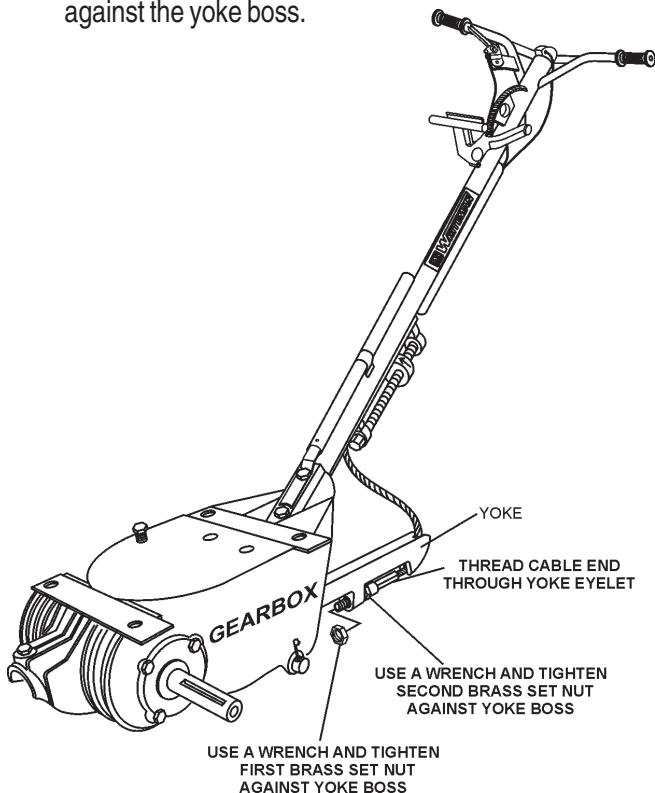

Figure 8. Cable Yoke Attachment
- Insert the cable end through the yoke eyelet (Figure 8) Tighten the first brass set nut by hand to remove all the slack from the cable.